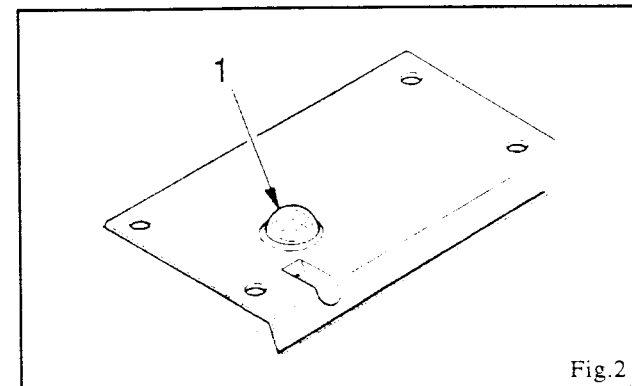

Fig.2
Correct lubrication is indicated by a continuous stream of oil passing the oil flow window (1) while machine is running, as shown in Fig. 2.